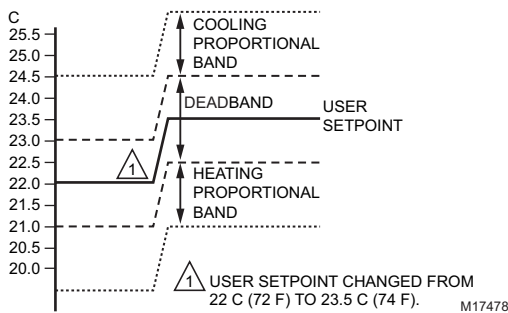

Fig. 5. Sequence control with deadband.
**AUTOMATIC CHANGEOVER WITH ZERO ENERGY DEADBAND (SEE FIG. 5)**